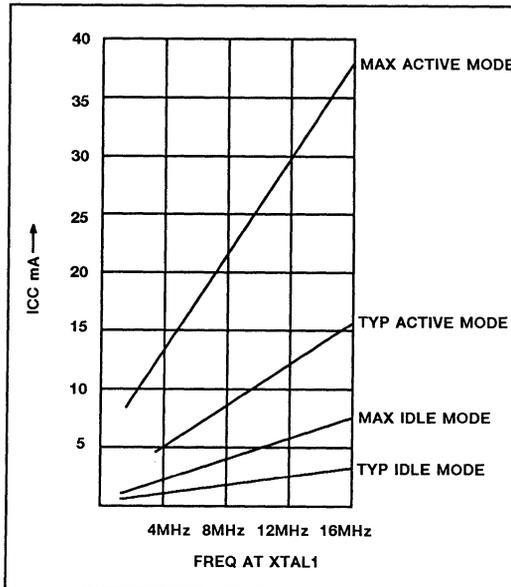

Figure 8. I_{CC} vs. FREQ
- See Figures 8 through 11 for I_{CC} test conditions.